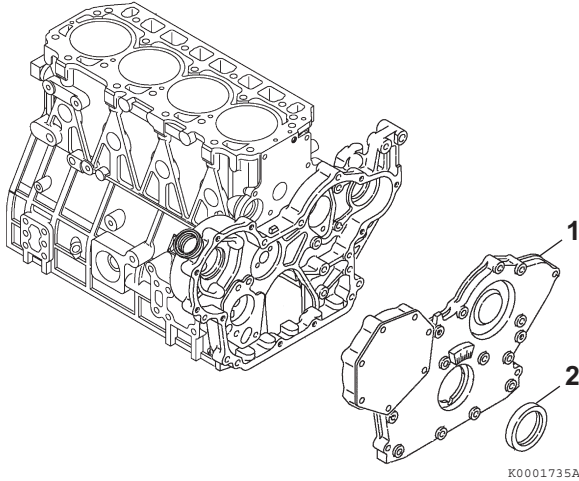

Figure 6-65
1. Remove the seal (**Figure 6-65, (2)**) from the cover (**Figure 6-65, (1)**).
2. Apply a continuous bead of ThreeBond Liquid Gasket No. 1207F, YANMAR Part No. 977770-1207F to the outside diameter of a new oil seal (**Figure 6-65, (2)**), and install in the gear case cover. Apply lithium grease to the lip of the seal.